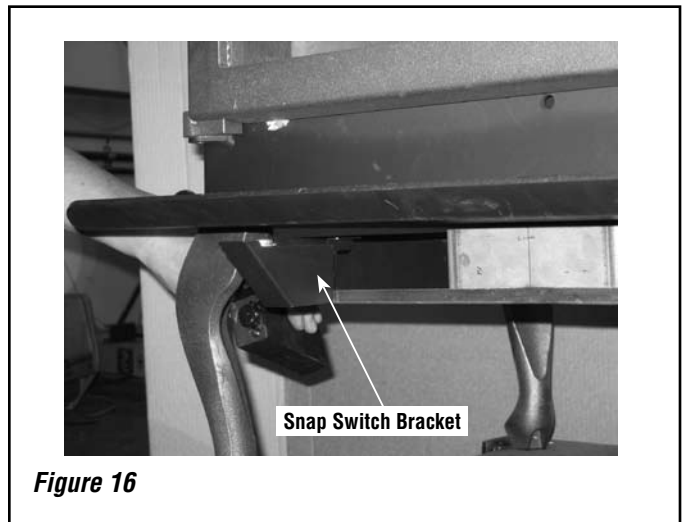

**Figure 14**
**Step 1.** Using a 9/16" wrench or socket loosen the left heat shield bolt. This bolt is located on the bottom side of the leg heatshield as shown. See *Figure 14.*